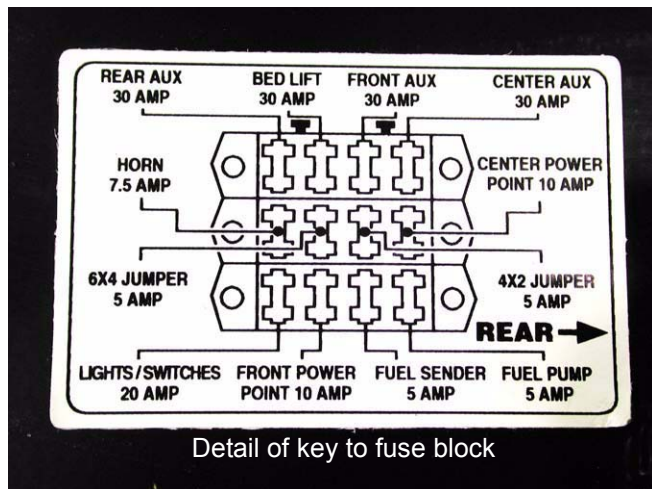

Figure 3.7
- 3.7. The fuse block also contains capacity for expansion, allowing the easy addition of accessories See Figure 3.7.